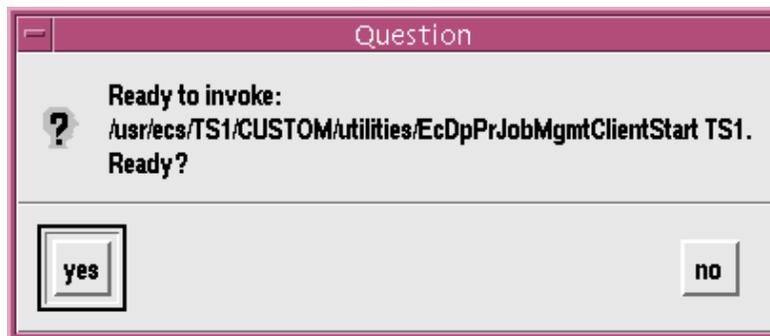

Figure 55. Ready to Invoke (Job Management Client) Dialog Box
- The **Ready to Invoke** (Job Management Client) dialog box (Figure 55) is displayed.